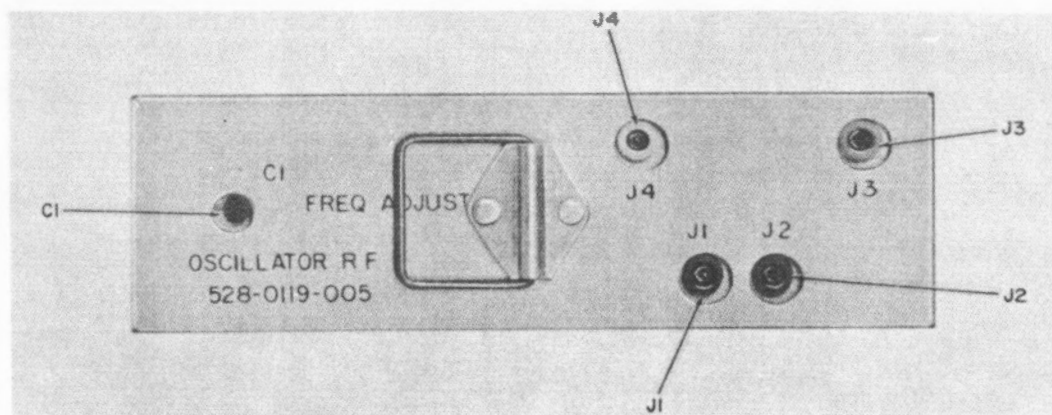

Figure 6-16. Radio Frequency Oscillator O-1032/PRC-47 (A6), Top View, Location of Test Points and Adjustments
(1) Connect the electronic counter to jack J4 (figure 6-16).
(2) Adjust capacitor C1 until the electronic counter reads 500,000.0 cps.
(3) Disconnect all test equipment.